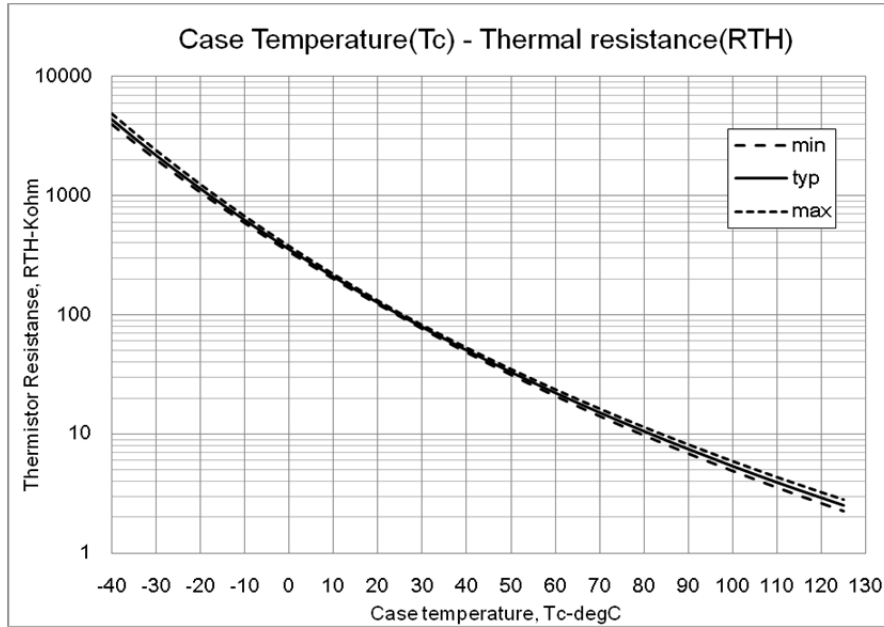
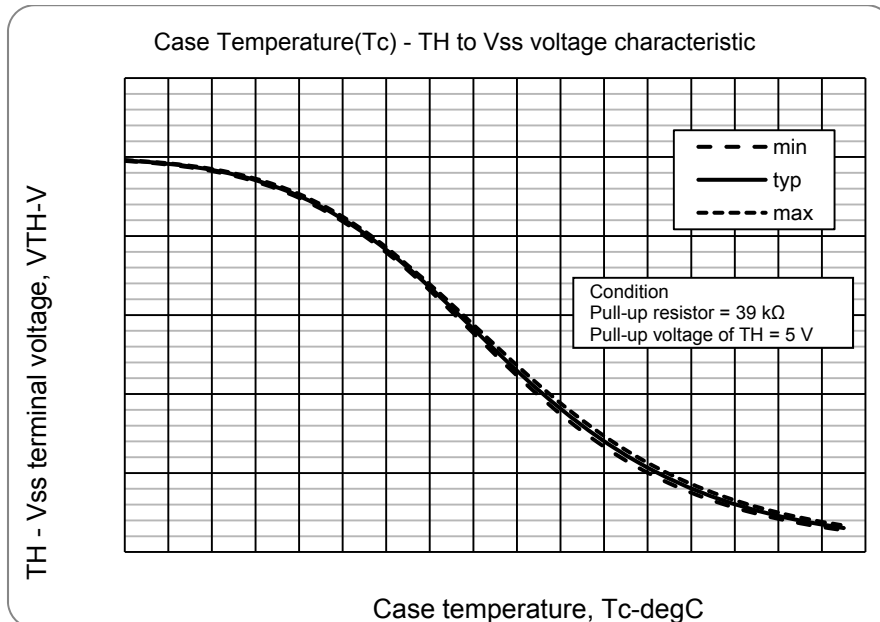

Fig. 10
Fig. 11
5. Inside the IPM, a thermistor used as the temperature monitor for internal substrate is connected between V_{SS} terminal and TH terminal, therefore, an external pull up resistor connected between the TH terminal and an external power supply should be used. The temperature monitor example application is as follows, please refer the Fig.10, and Fig.11 below.